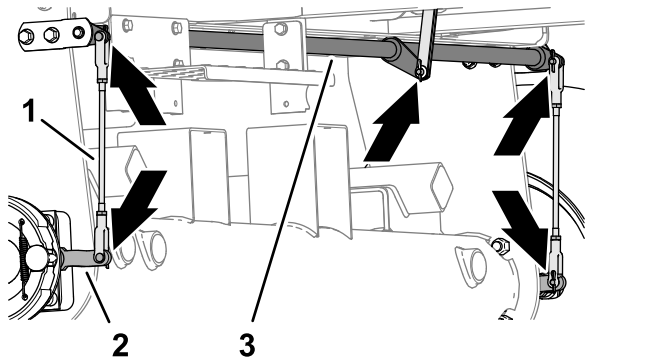

Figure 71
1. Inspect the left and right brake-rod assemblies (Figure 71) for damage and wear.
2. Inspect the brake pivot shaft (Figure 71) for damage and wear.